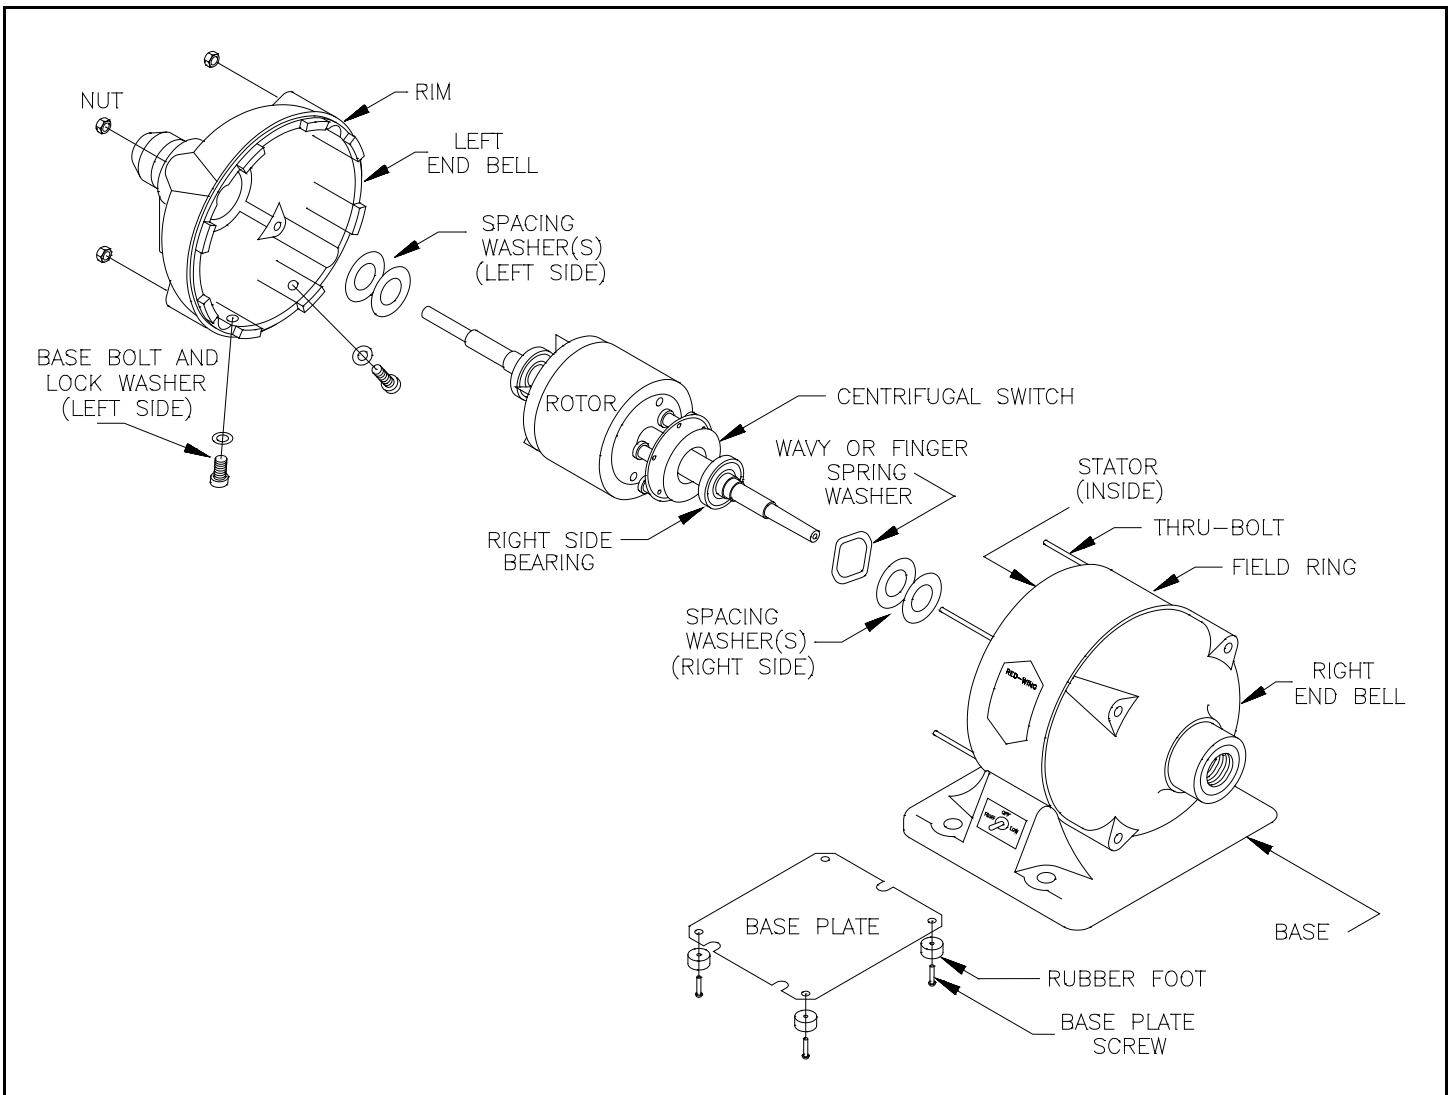

Figure 5. Exploded view of the Red Wing lathe
- 5.2 Turn the lathe upside down and remove the four base plate screws, rubber feet and base plate. See Figure 5.